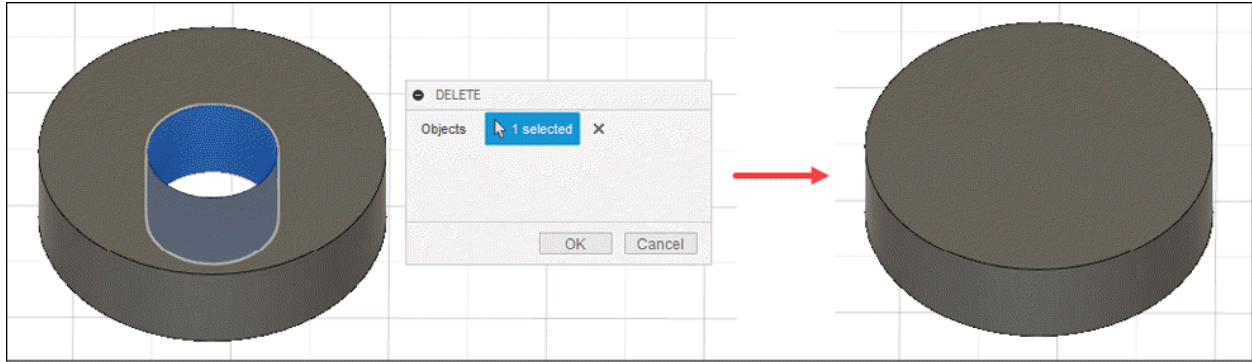

Figure-64. Object deleted
- After selecting desired object, click on the **OK** button from **DELETE** dialog box to delete the selected object; refer to Figure-64.